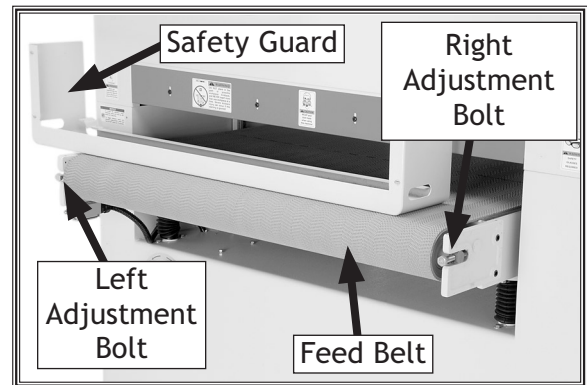

Figure 54. Feed belt tension adjustment bolts. **Note:** *Safety guard removed only for clarity.*
3. Find the adjustment ports in the safety guard (Figure 54) at the front end of the feed table.
4. Using a 20mm wrench, turn both left and right adjustment bolts (Figure 54) clockwise equally to increase tension.
2. If the feed belt is tracking to the **right** side of the table, turn the **right** adjustment bolt (**Figure 54**) clockwise.